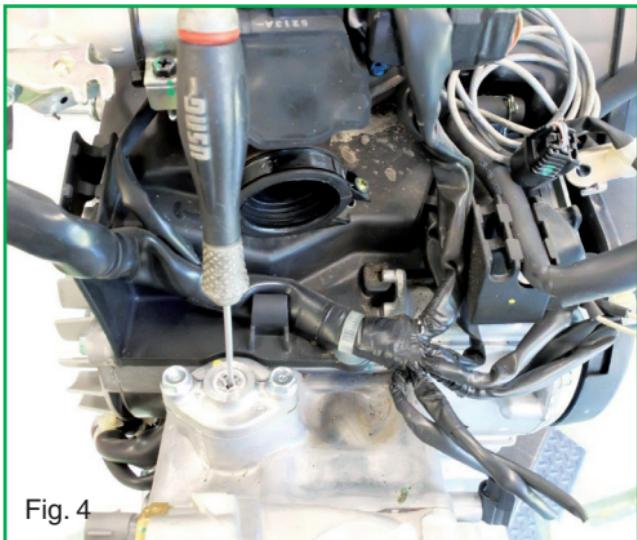

Fig. 4
- Remove the chain tensioner screw cap and tighten the screw until it locks (Fig. 4).